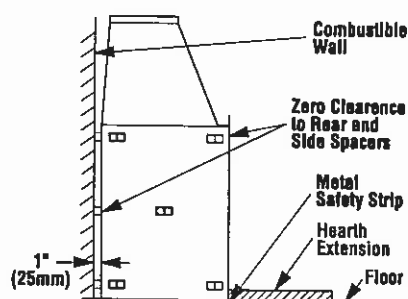

Figure 6
Step 2. Insert the metal safety strips, packaged with the fireplace, beneath the fireplace as illustrated (Figures 6 and 7). The safety strips should overlap 1" (25 mm) for continual coverage of the floor.